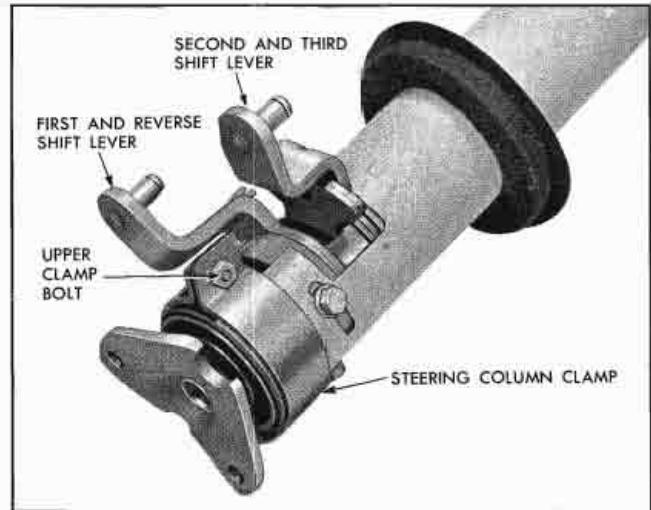

Fig. 7-15 Steering Column Removed from Car
2. Loosen upper bolt on steering column clamp and slip clamp over lower end of column (Fig. 7-15).